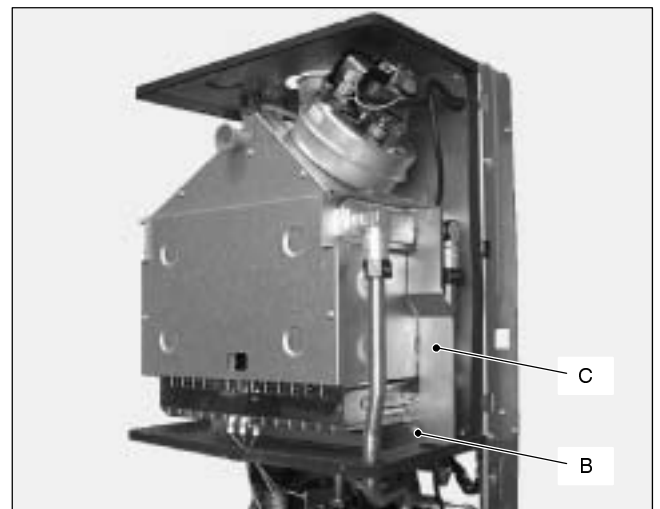

Fig. 80
- 3b For models M90F.28S, M90F.28SR and M90F.32S remove also the plate C (see Fig. 80 on page 39).
- 1b For models M90F.28S and M90F.28SR, remove the screw **B** and the plate **C** (Fig. 80).